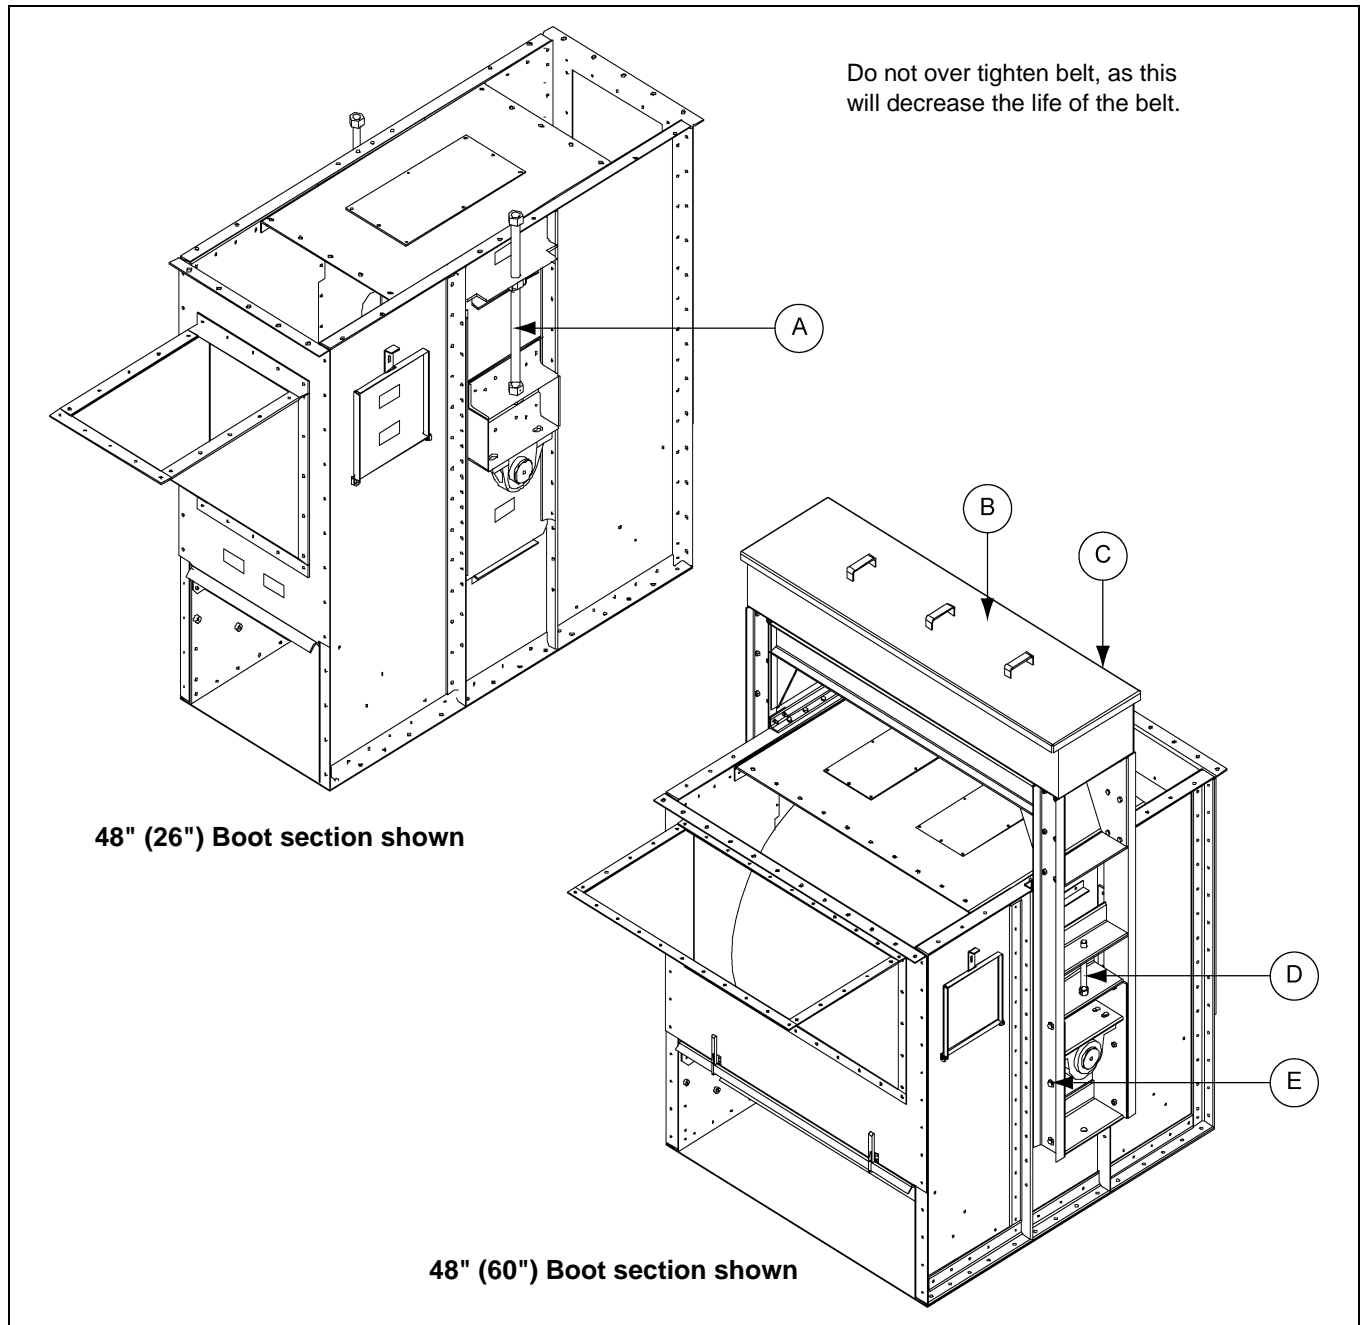

Figure 10B Take-Ups
5. After adjustments have been made, re-tighten bolts and snug the bearing plate adjustment screw lock nuts. *(See Figure 10B on Page 33.)*